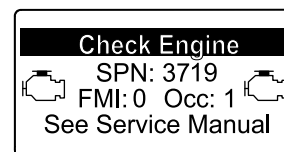

Figure 22
- Engine warning SPN 3719, FMI 0 (Figure 22)